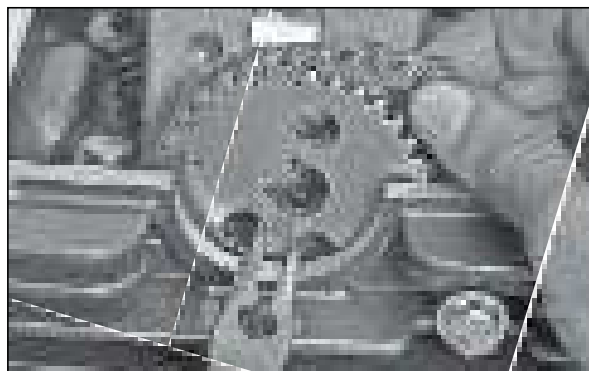

Fig. 3.42
- Gently pull out the sprocket cam shaft using nose plier and dislocate the cam chain from cam sprocket. (Fig. 3.42)